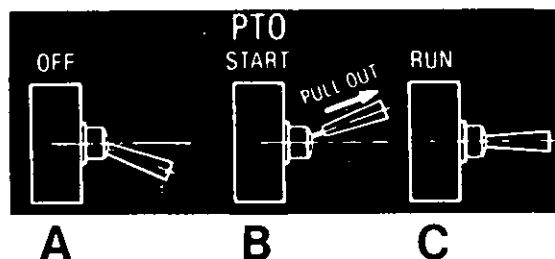

FIGURE 13.
2. Flip the toggle switch to the "RUN" position. See figure 13.